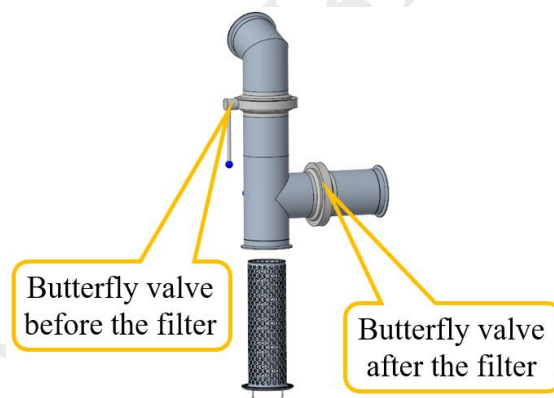

Figure 9.2 Schematic of pipeline filter dismantling and cleaning
- d) Remove the filter screen inside the filter for cleaning (or replacement), referring to Figure 9.2;